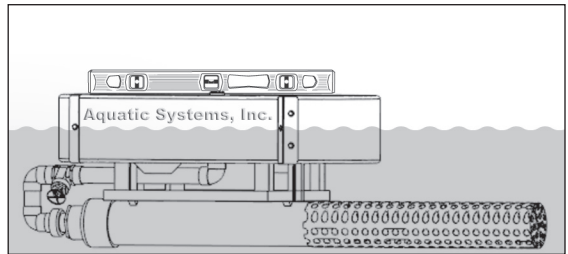

Fig.6
- Should too much water enter chamber(s), insert tubing and blow water out of chamber(s). Evenly lower the fountain flotation until the water level sits at the bottom of the “Aquatic Systems” printed on the outside diameter of each float section. (Fig.6)